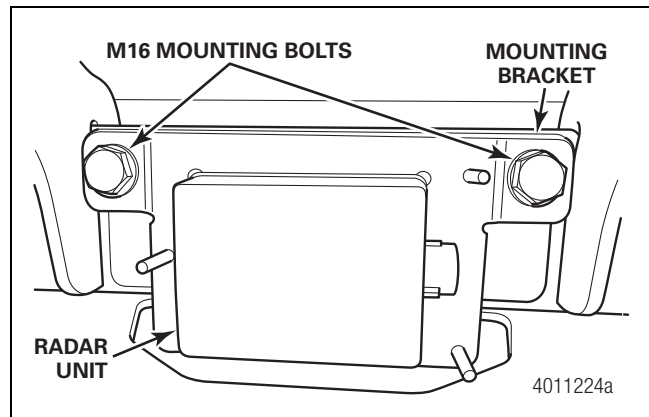

Figure 4
- Place the new radar sensor and bracket onto the tractor in the position shown in the figure below. Make sure the radar sensor and bracket are mounted with the radar sensor facing outward toward the front of the vehicle. Install the two M16 mounting bolts and two 5/8" washers provided in the kit and dry tighten to 200-220 ft-lb (271-298 N•m). Figure 4.